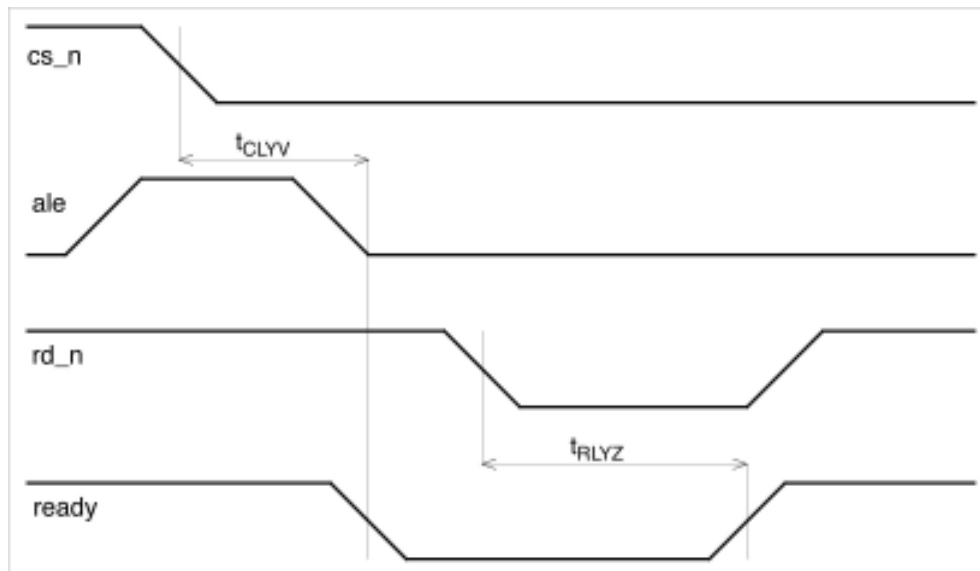

Figure 8. Mode 0 and Mode 1 ready Timing for Read Cycle
- Mode 0 and Mode 1 **ready** Timing for Read Cycle (Table 8/Figure 8)